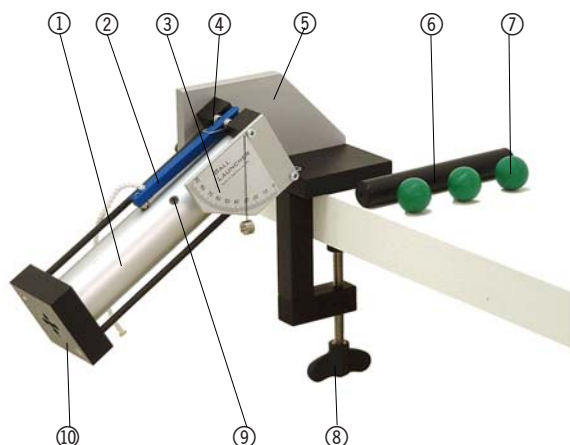

Fig. 1: Components
- Holder U10361 is screwed by means of its clamp to a stable working surface. Then the launcher is attached to the holder as shown in Fig. 1. The launch angle can be adjusted with the help of the angle scale ③.